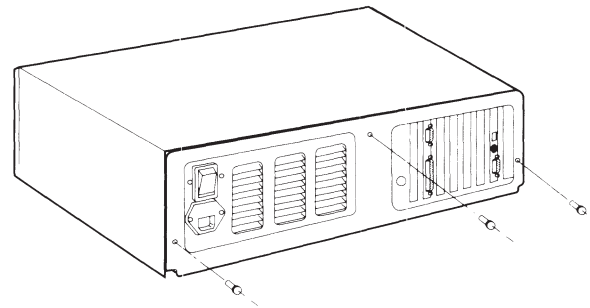

Figure 7-8. Location of the Three Screws on the Back of the System Unit.
2. Remove the three screws on the back of the system unit (Figure 7-8).